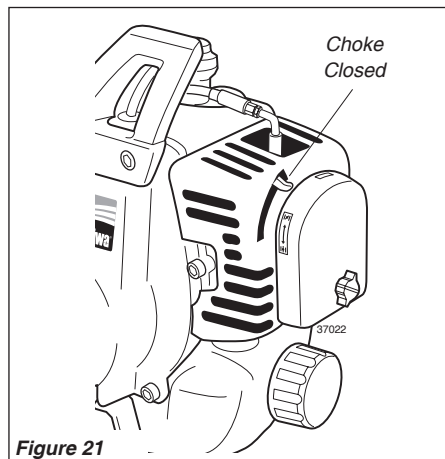

Figure 21
4. **(Cold Engine Only)** Choke the engine by moving the choke lever *up* towards the spark plug (choke is closed). See Figure 21.